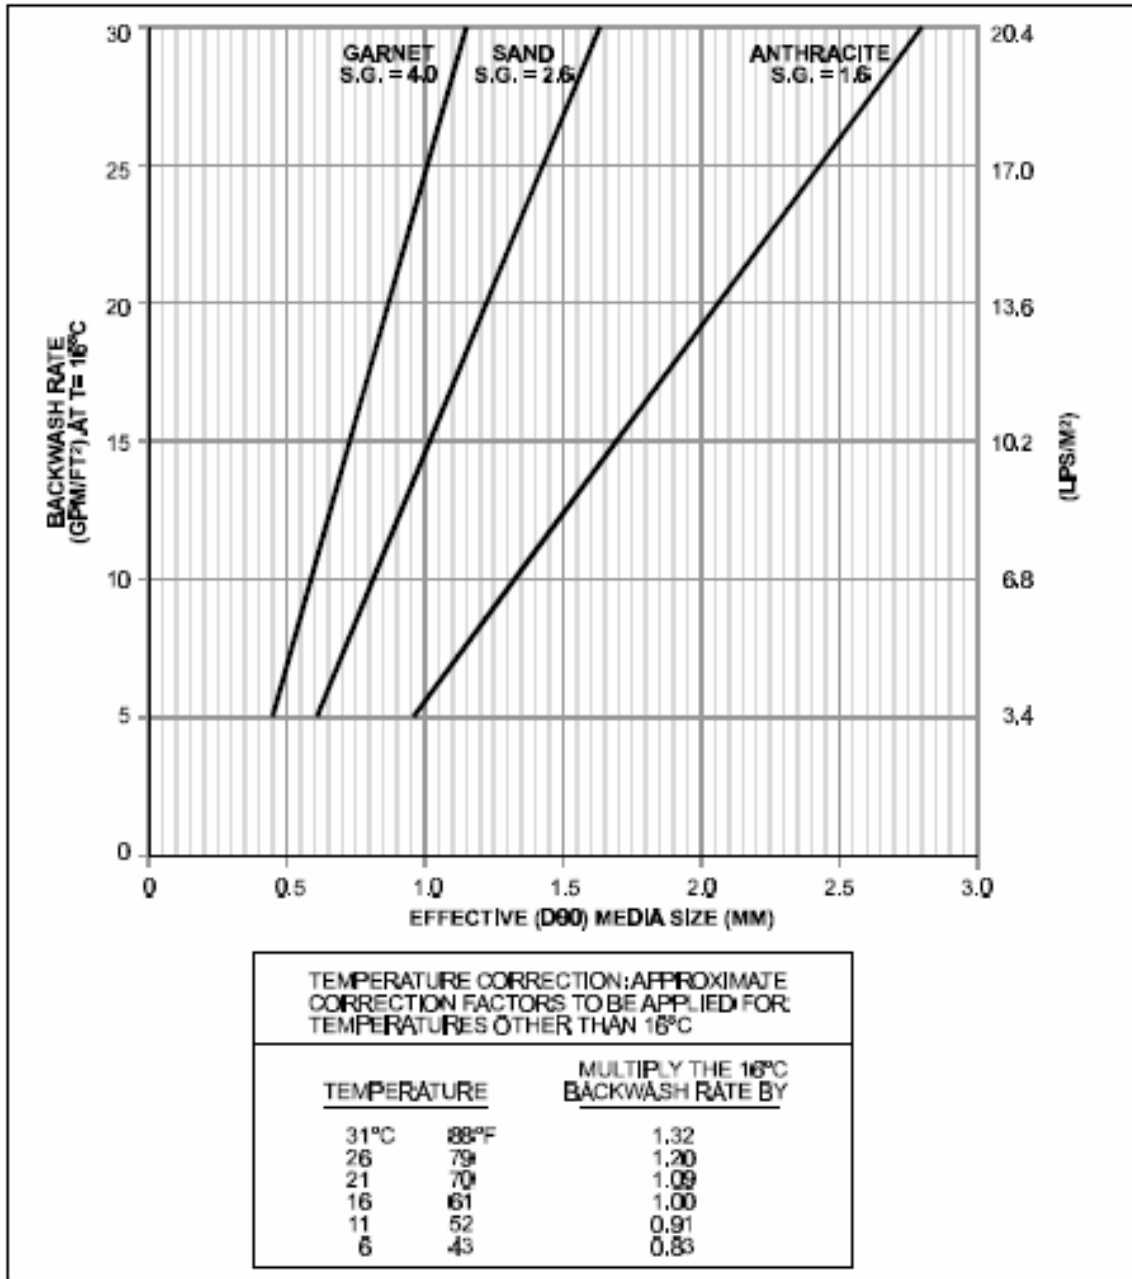

Figure 1
a. Media Expansion. Filter media should be expanded at least 20 to 25 percent for good cleaning action, although a greater expansion may be optimum in some cases. Higher expansions risk washing out some filter media along with the accumulated solids. The degree of expansion is affected by many variables associated with the filter media and the water. Filter media variables include size and gradation as well as shape and density. Water variables include viscosity and density which, in turn, vary with water temperature. Media cleaning is also affected by interparticle abrasion, although the bulk of the cleaning action is due to the force of the rising backwash water. Expansion can be measured by attaching cups to a pole at suitable intervals, then dipping the pole into the backwashing filter bed; the highest cup that contains sand indicates the height of bed expansion. A waterproof flashlight attached to a pole works well to show the top of the sand, but only after the backwash water becomes relatively clear. See Figure 1.